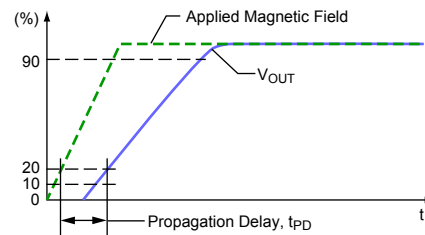

Figure 3: Propagation Delay Definition
**Propagation Delay:** ( $t_{PD}$ ) The time interval between a) when the applied magnetic field reaches 20% of its final value, and b) when the output reaches 20% of its final value (see Figure 3).